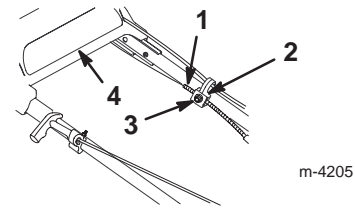

Figure 24
3. Loosen the cable support nut (Fig. 24).
5. With the upper handle pushed back as far as possible and while holding the drive bracket down, pull the cable jacket down (toward the lawn mower) until there is no slack in the cable (Fig. 24).
6. Tighten the nut on the cable support (Fig. 24).